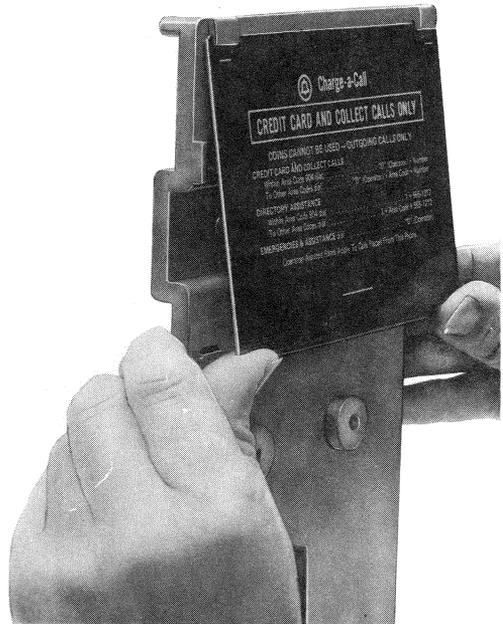

Fig. 12—Installing Instruction Card On Rear Panel Support of KS-22284 Backboard
- (1) Place top of card under tabs on panel (Fig.12).
- (2) Push back and down under bottom tabs.
- (3) Ensure that card is seated properly.
D. 2554B-03 (MD), Modified 2554B-03 (MD), or Modified 2554BMP-03 Telephone Set